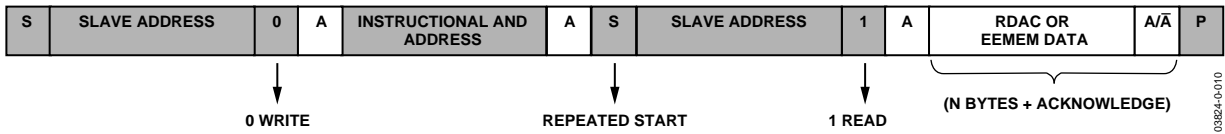
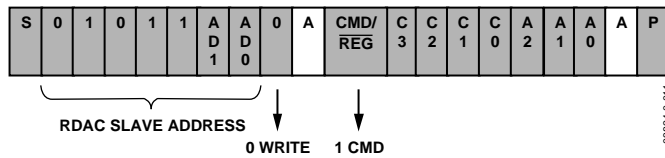
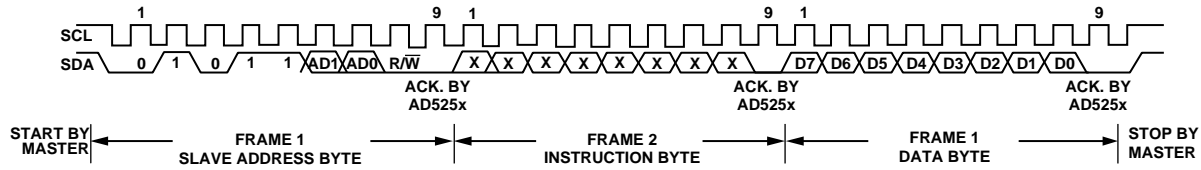
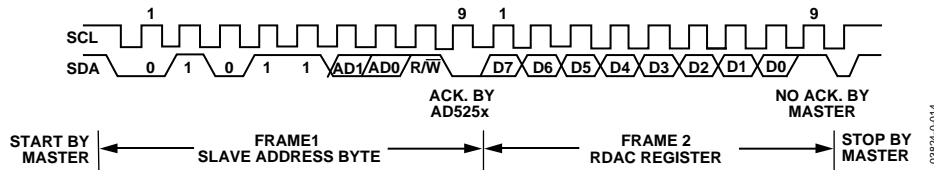

Figure 30. RDAC or EEMEM Random Read
Figure 31. RDAC Quick Command Write (Dummy Write)
Figure 33. General I²C Write Pattern
Figure 34. General I²C Read Pattern
Figure 30 illustrates a random RDAC or EEMEM read operation. This operation allows users to specify which RDAC or EEMEM register is read by issuing a dummy write command to change the RDAC address pointer and then proceeding with the RDAC read operation at the new address location.
The AD5253/AD5254 feature 12 quick commands that facilitate easy manipulation of RDAC wiper settings and provide RDAC-to-EEMEM storing and restoring functions. The command format is shown in Figure 31, and the command descriptions are shown in Table 9.
The first byte of the AD5253/AD5254 is a slave address byte (see Figure 33 and Figure 34). It has a 7-bit slave address and an R/W bit. The 5 MSB of the slave address is 01011, and the next 2 LSB is determined by the states of the AD1 and AD0 pins. AD1 and AD0 allow the user to place up to four AD5253/AD5254 devices on one bus.
AD5253/AD5254 can be controlled via an I²C-compatible serial bus and are connected to this bus as slave devices. The 2-wire I²C serial bus protocol (see Figure 33 and Figure 34) follows:
- The master initiates a data transfer by establishing a start condition, such that SDA goes from high to low while SCL is high (see Figure 33). The following byte is the slave address byte, which consists of the 5 MSB of a slave address defined as 01011. The next two bits are AD1 and AD0, I²C device address bits. Depending on the states of their AD1 and AD0 bits, four AD5253/AD5254 devices can be addressed on the same bus. The last LSB, the R/W bit, determines whether data is read from or written to the slave device.
enables the RDAC register. The 5 LSB, A4 to A0, designates the addresses of the EEMEM and RDAC registers (see Figure 27 and Figure 28). When MSB = 1 or when the device is in CMD mode, the four bits following the MSB are C3 to C1, which correspond to 12 predefined EEMEM controls and quick commands; there are also four factory-reserved commands. The 3 LSB—A2, A1, and A0—are 4-channel RDAC addresses (see Figure 31). After acknowledging the instruction byte, the last byte in the write mode is the data byte. Data is transmitted over the serial bus in sequences of nine clock pulses (eight data bits followed by an acknowledge bit). The transitions on the SDA line must occur during the low period of SCL and remain stable during the high period of SCL (see Figure 33).
- In current read mode, the RDAC0 data byte immediately follows the acknowledgment of the slave address byte. After an acknowledgment, RDAC1 follows, then RDAC2, and so on. (There is a slight difference in write mode, where the last eight data bits representing RDAC3 data are followed by a no acknowledge bit.) Similarly, the transitions on the SDA line must occur during the low period of SCL and remain stable during the high period of SCL (see Figure 34). Another reading method, random read method, is shown in Figure 30.
- When all data bits have been read or written, a stop condition is established by the master. A stop condition is defined as a low-to-high transition on the SDA line that occurs while SCL is high. In write mode, the master pulls the SDA line high during the 10th clock pulse to establish a stop condition (see Figure 33). In read mode, the master issues a no acknowledge for the ninth clock pulse, that is, the SDA line remains high. The master brings the SDA line low before the 10th clock pulse and then brings the SDA line high to establish a stop condition (see Figure 34).